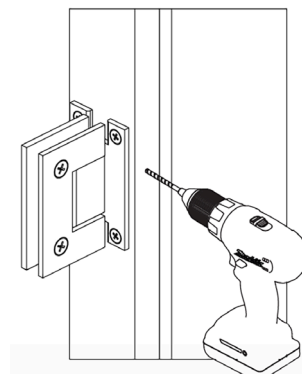

FIGURE 15
Once adjusted, take a 1/8" drill bit and place in pre-drilled holes on Hinge Jamb (B). Drill three pilot holes through the Wall Jamb (A). (See Figure 15)